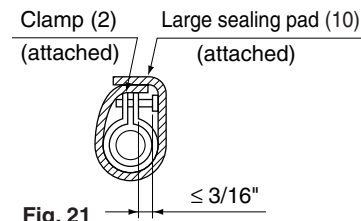

Fig. 21
- Make sure the piping is short, has at least a 1/100 slope, and can prevent air pockets from forming. **(Refer to Fig. 21)**